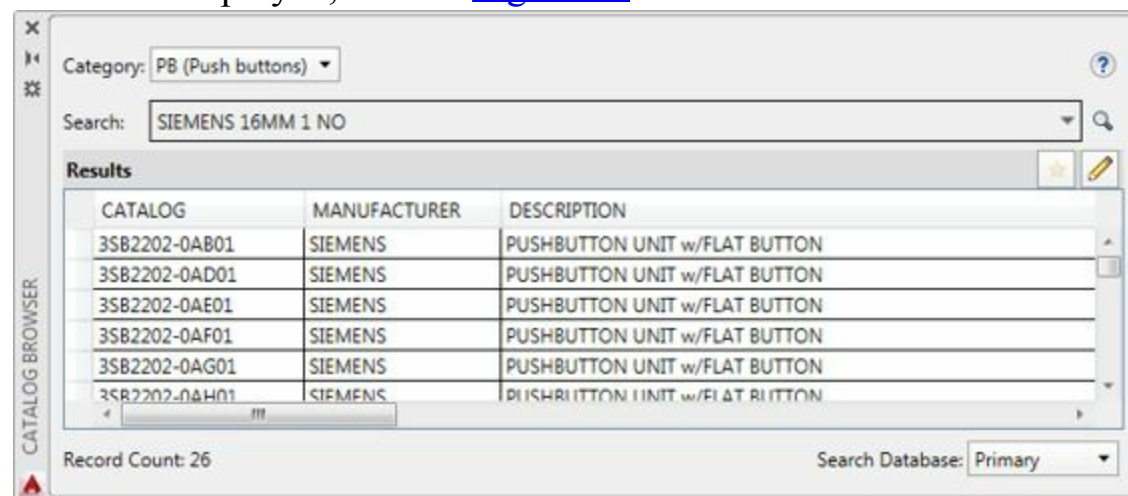

Figure-18. Catalog Browser dialog box with desired components
- Click on the **Search** button next to **Search** edit box, the list of components matching the keywords will be displayed; refer to Figure-18.